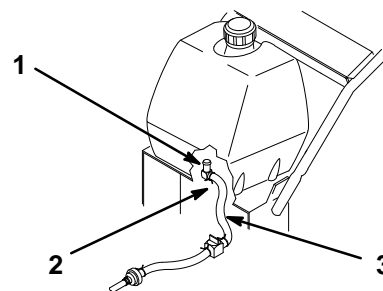

Figure 11
3. Push fuel line onto fuel tank fitting and secure with hose clamp (Fig. 11).